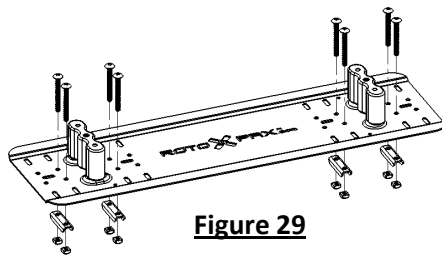

Figure 29
Step 2 – Once the Upright Bases have been attached properly, remove the Fuel Pack and attach the Universal Mounting Plate to a desired surface using any arrangement of holes in the Universal Mounting Plate and the provided hardware (see **Figure 29** and **30**).